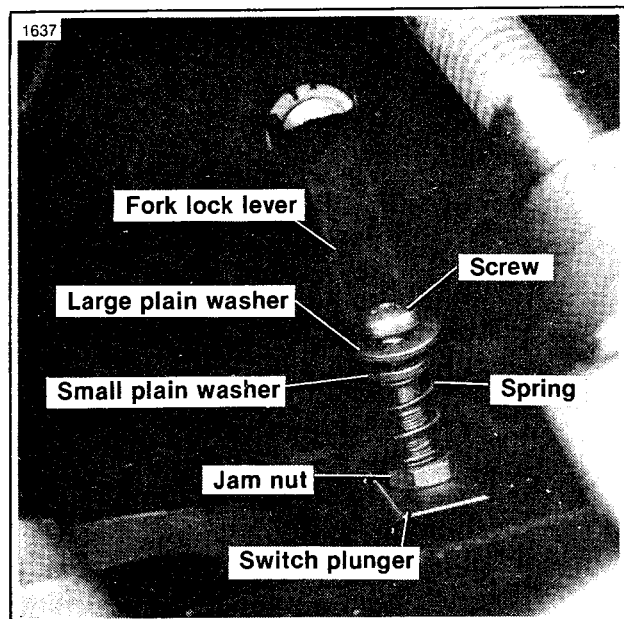

Figure 1. Adjusting Screw Assembly
1. See Figure 1. Assemble the adjusting screw. Installing parts in this sequence, onto the adjusting screw: large plain washer, small plain washer, spring and jam nut. Thread the jam nut approximately half way onto the adjusting screw.